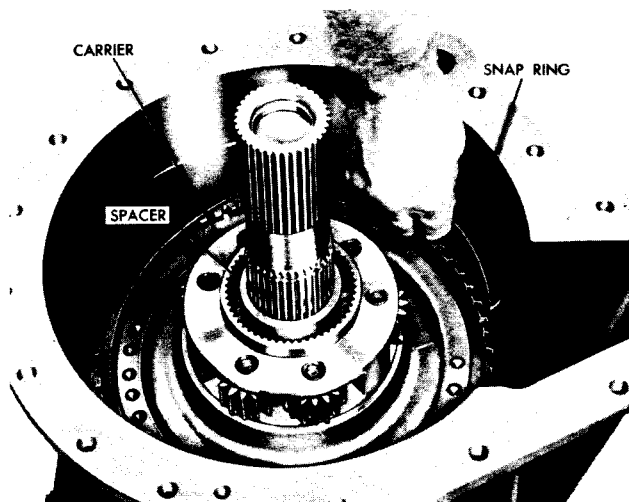

Fig. V-21. Removing (or installing) high-range planetary carrier assembly snap ring
(4) Remove the snap ring which retains the high-range planetary carrier assembly in intermediate-range clutch drum (fig. V-21).
(5) Remove the high-range planetary carrier assembly (fig. V-21). Refer to sect.
(6) Remove the high-range sun gear spacer (or snap ring – see note, below) from the transmission main shaft (fig. V-21).
Note: Transmissions prior to serial number 24029 include the spacer illustrated in fig. V-21. Effective with serial number 24029, a snap ring, retaining the high-range planetary sun gear to the transmission main shaft, is used.